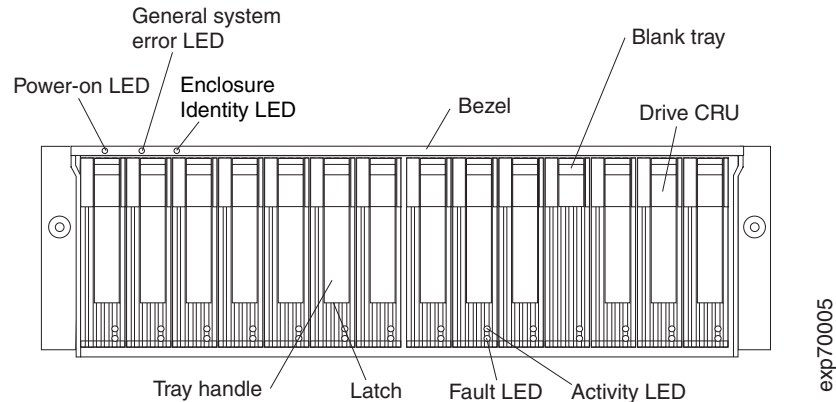

Figure 48. Hot-swap hard disk drive LEDs
2. Check for Fault LEDs shown in Figure 48. If any amber LEDs are lit, see Chapter 4, "Hardware maintenance," on page 77.